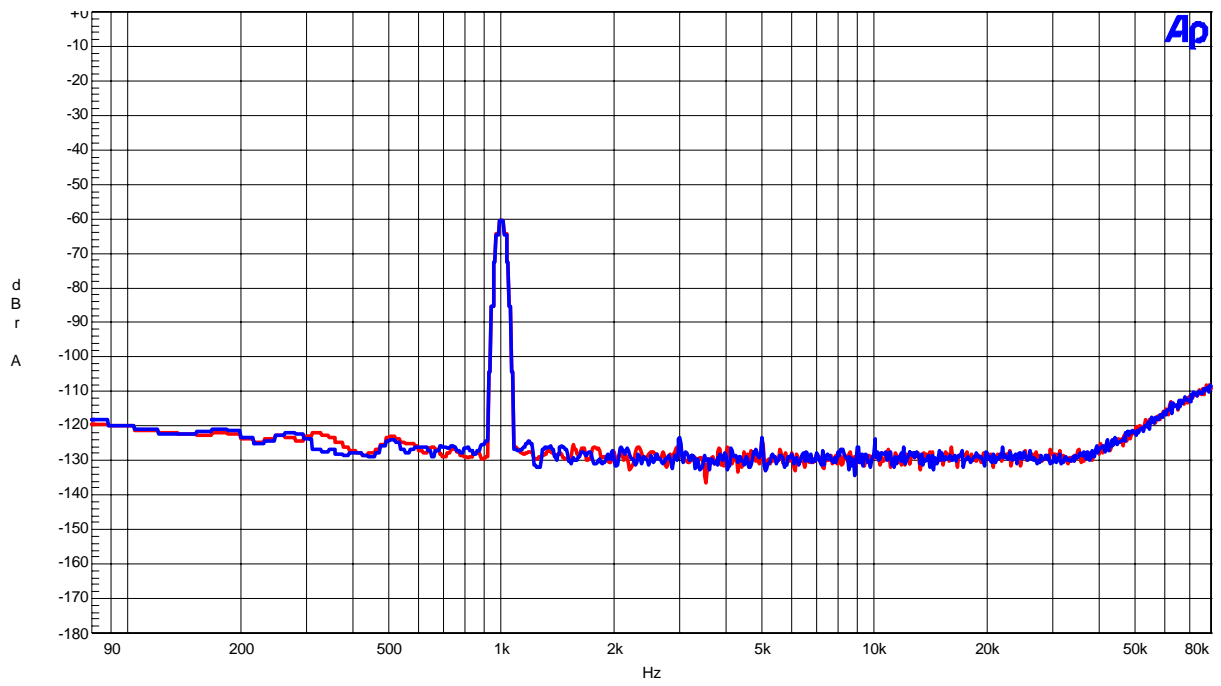

Figure 29. FFT(Input Frequency=1kHz, Input Level=-60dBFS)
- Figure 29. FFT (Input Frequency =1kHz, Input Level =-60dBFS)